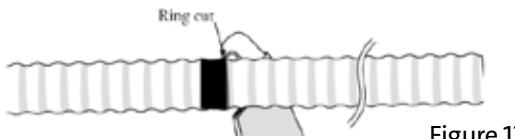

Figure 12
- Step 2:** Using the hook blade knife, make a ring cut through the outer sheath at the tape mark (Figure 12).